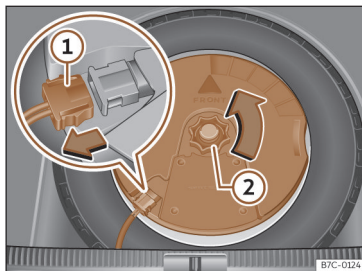

Fig. 212 In the luggage compartment: remove the subwoofer.
- Disconnect the *subwoofer*»» **Fig. 212 ①** speaker cable.
- Turn the securing wheel in an anti-clockwise direction»» **Fig. 212 ②**.